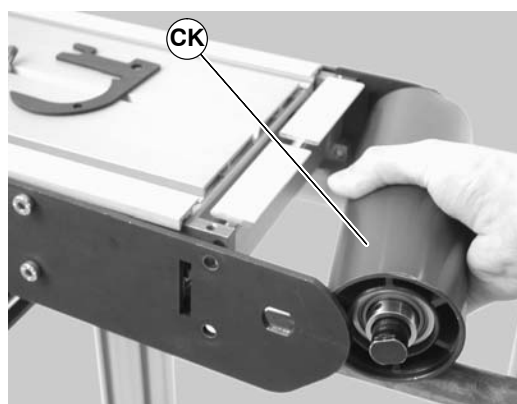

Figure 62
4. Slide the idler pulley assembly (CK of Figure 62) out of the headplate on the opposite side.